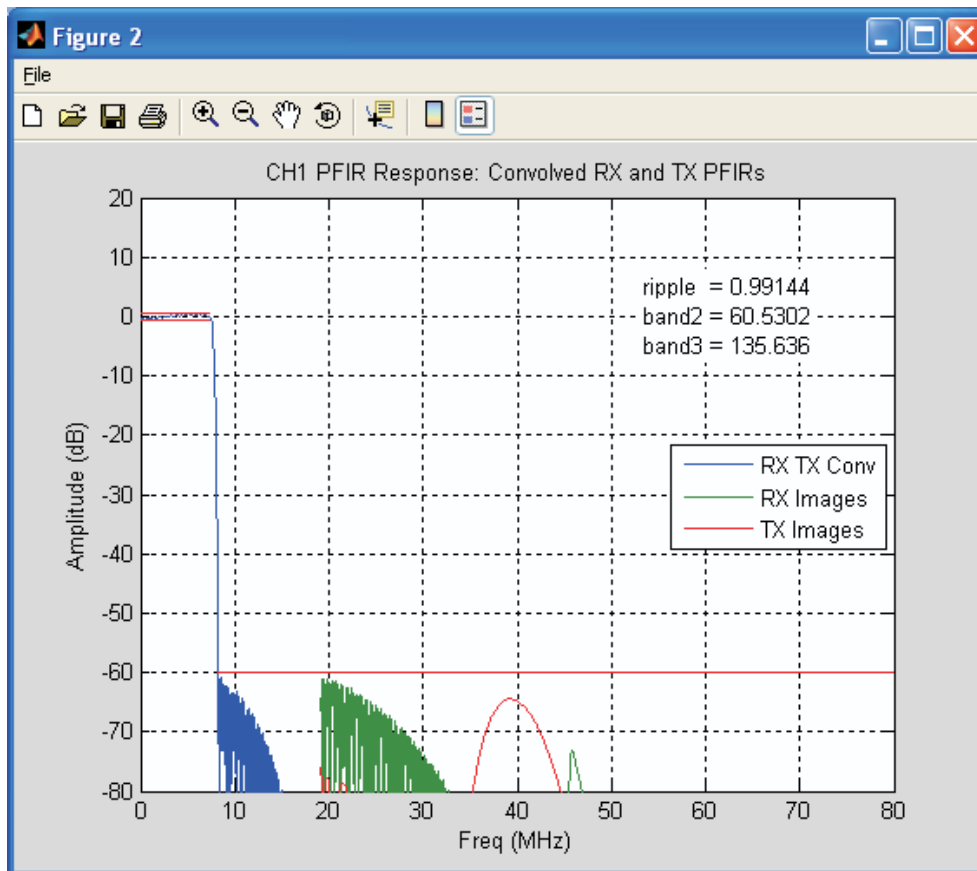

Figure 31. (Figure 2*N window) Frequency Response with Convolved End to End Response
- **Plots - RX/TX CONV**—plots the convolved RX + TX filter response, including CIC compensation and design limits. (See Figure 31 for an example.)
The frequency response for the convolved end-to-end response is displayed in a window labeled Figure $2*N$ (Figure 31), where N is the channel number. The even-numbered figures also display ripple and stopband limits in red, and actual ripple and stopband amplitudes.
Examining the Passband ripple for the complete response in Figure 31, measure it at 1.12 dB or 0.1 dB greater than the design requirement.